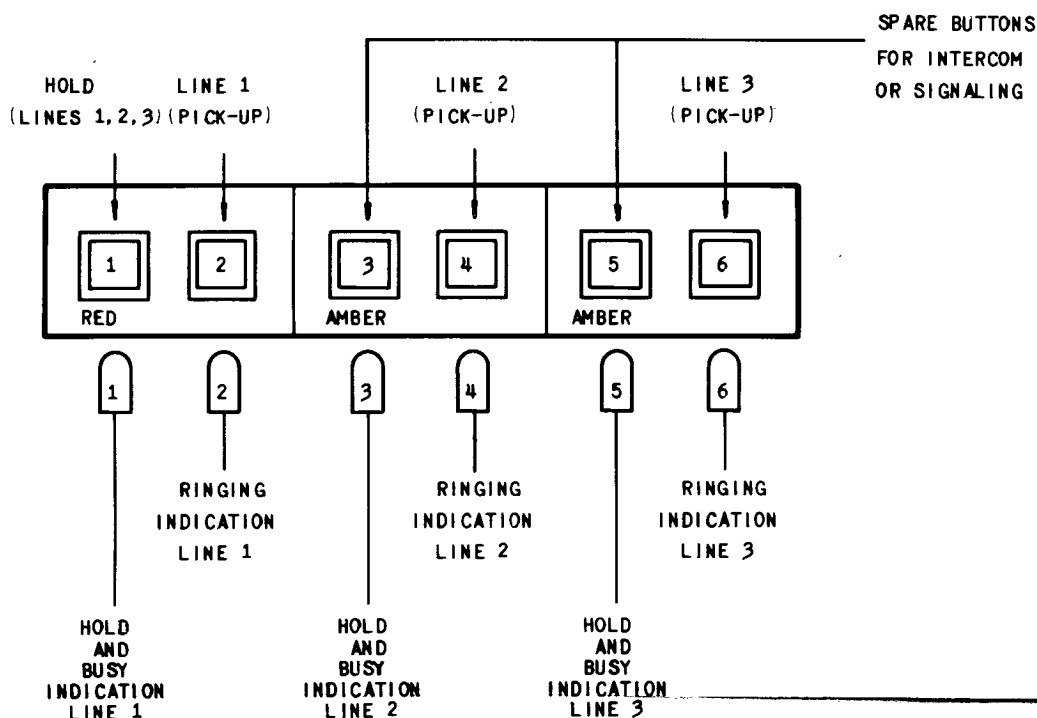

Fig. 1. - Button and Lamp Arrangement for Key Telephone Sets used in the SK-1 Key Telephone System
1.04 Each key telephone set provides common access to 3 Central Office (CO) or PBX lines, with a common 'Hold' button, as well as 2 additional lines which may be used for auxiliary functions such as internal communication or signaling. (see Fig. 1)